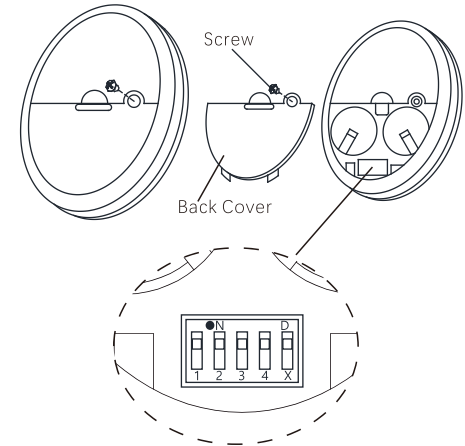

Fig. 20
INSTALLING THE TRANSMITTER BATTERIES (Fig. 20)
Step 1. Remove the back cover of the transmitter and safety screw.(Fig.20) Install two CR2032 3V batteries (with the + side facing up). Note: To prevent damage to the transmitter, remove the batteries if not in use for long periods of time (several months).
SETTING THE "1-4" FREQUENCY DIP SWITCHES (Fig.20)
SETTING THE "D/X" LIGHT FUNCTION DIP SWITCH (Fig. 20)